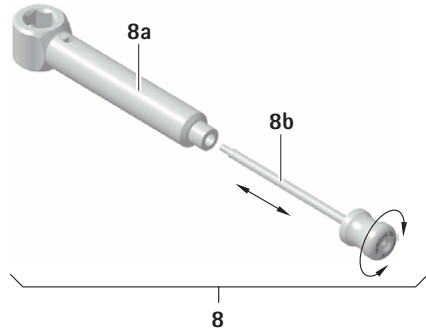

Fig. 2
- Screw the cleaning rod **8b** into the counter torque **8a**, see Fig. 2.